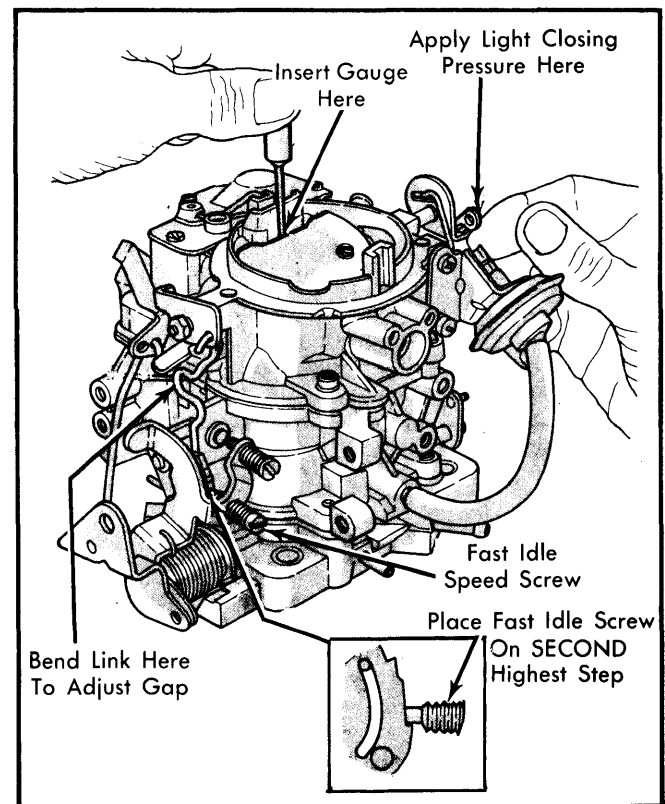

Fig. 5 Adjusting Fast Idle Cam Position
1) Position fast idle speed screw on second highest step of fast idle cam. Close choke valve by applying light pressure with finger on choke shaft lever. See Fig. 5.